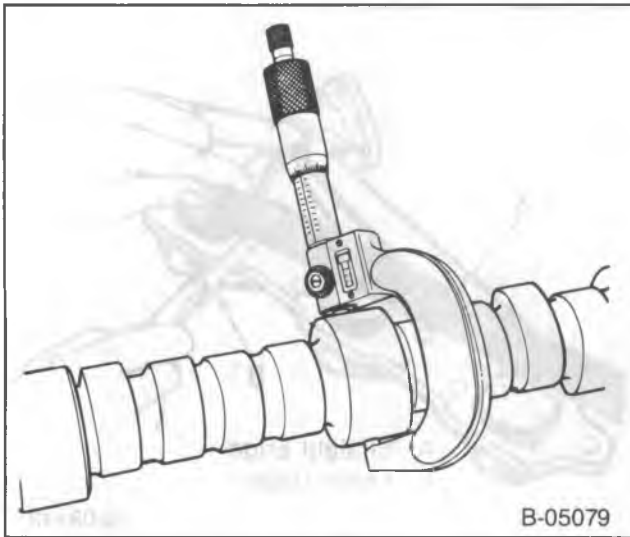

Figure 19—Checking the Camshaft Journals
- Camshaft journal diameter (figure 19). The proper diameter is listed in "Specifications."